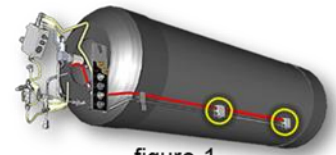

figure 1
**Side Mounts** have “2” PRDs. Located on the frame side of the unit figure 1.